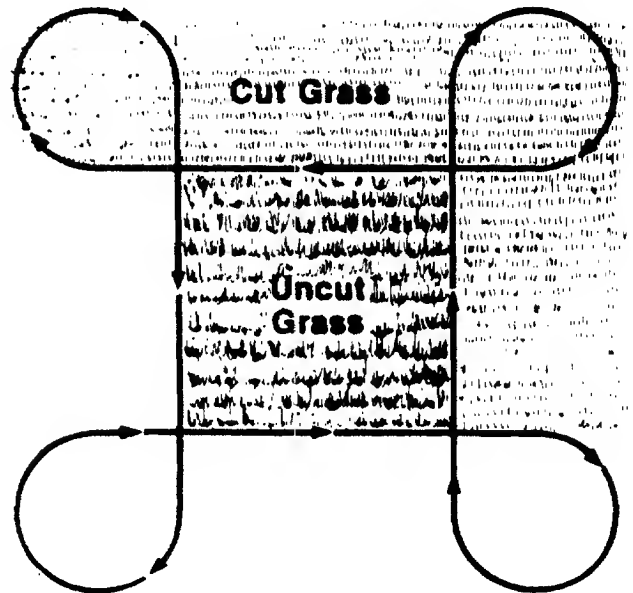

Figure 61
4. Follow the mowing procedure shown in Figure 61.